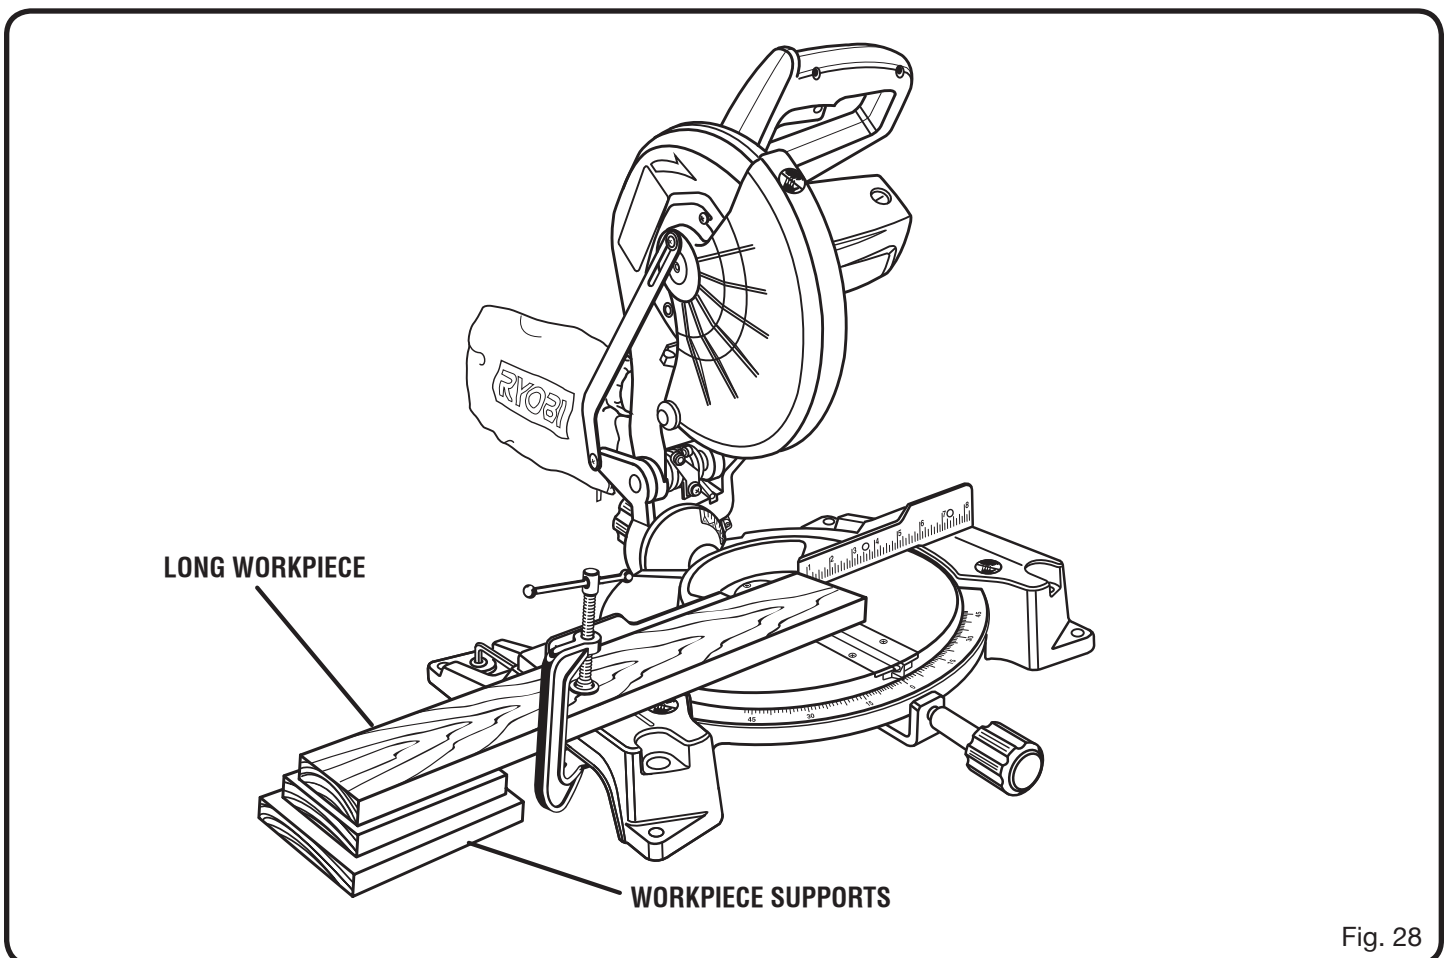

Fig. 28
- When cutting long pieces of lumber or molding, support the opposite end of the stock with a roller stand or with a work surface level with the miter table. *See Figure 28.*
See Figure 28.